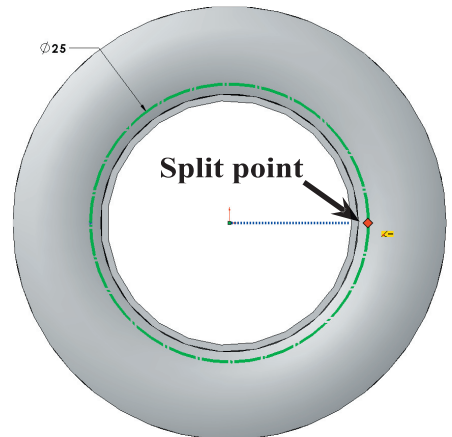

Fig. 16
Step 3. Click **right quadrant point of circle** to split at that point, **Fig. 16**. The point should be directly to the right of the Origin.